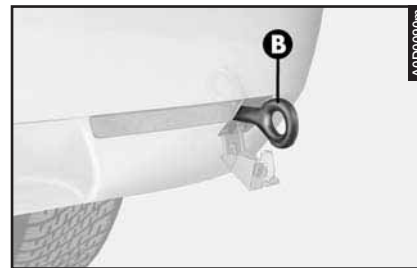

fig. 99
- Firmly screw the ring (**B**-fig. 99) in its housing.